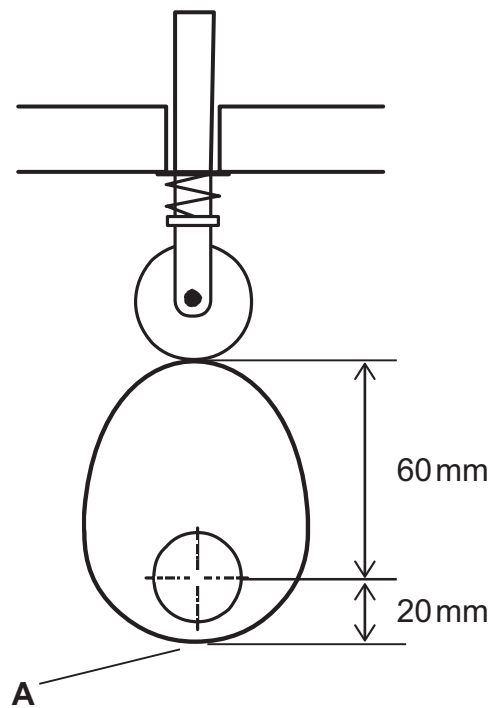

Fig. 4
3 Fig. 4 shows a cam and follower.
- (iii) Determine the distance moved by the follower when the cam turns from this position to the position shown in **Fig. 4**.